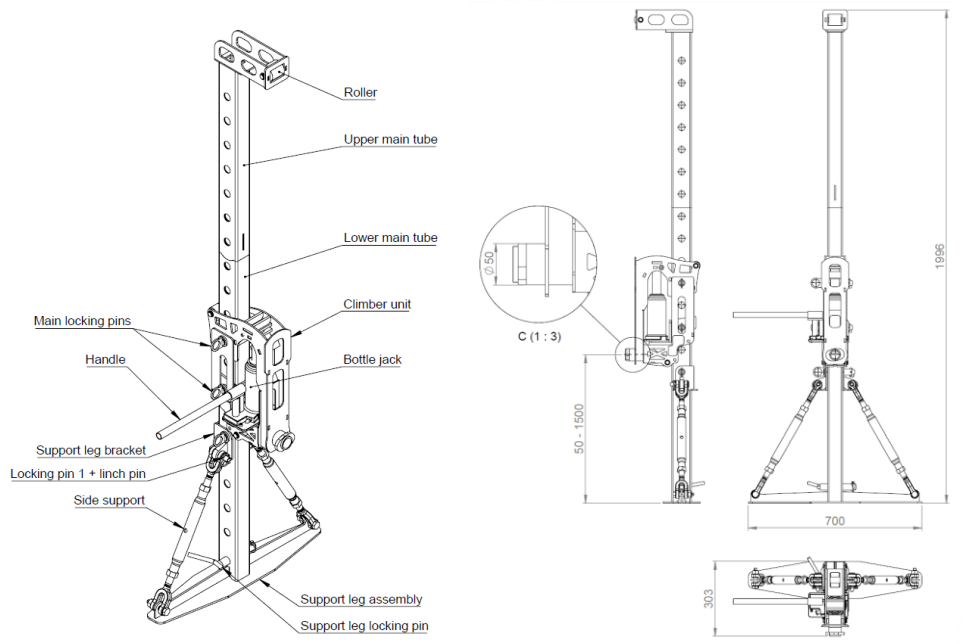

Figure 1. Container lifting unit parts and main dimensions
7. Lift the climber to a place where you can insert a pin into the climber's bottle jack frame hole locking (**Figure 1. Container lifting unit parts, part 11**)